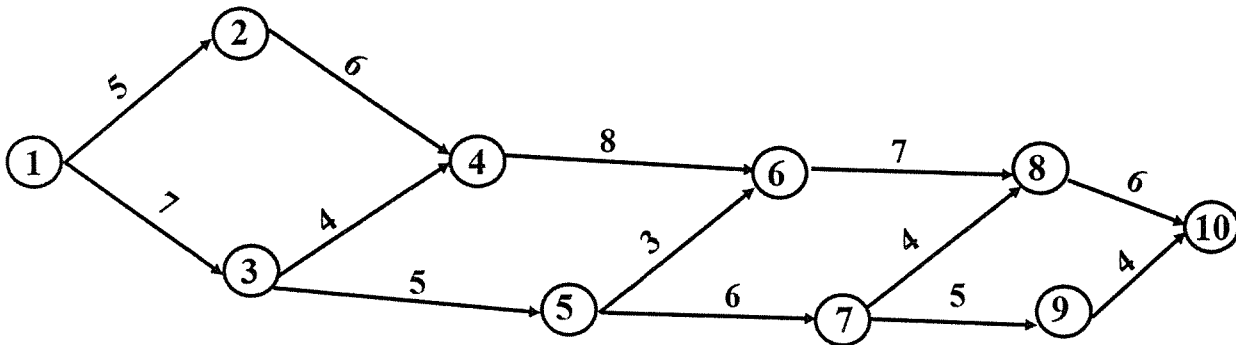

Figure 1. Network diagram along with activity duration
b. The network of a construction project is shown in **Figure 1**, along with the duration of each activity. Apply network analysis technique to determine the Earliest and Latest Event Time of each event. [05]
Apply CPM technique to the network shown in **Figure 1** to determine the followings: